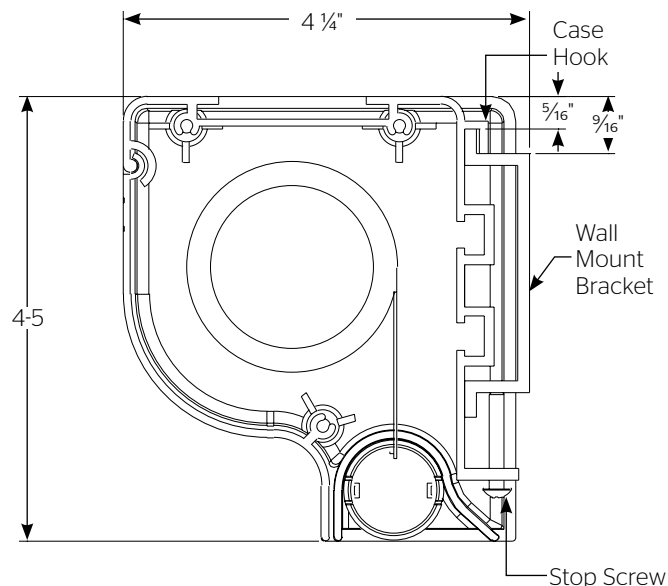

Figure 1
2. Make sure the bracket is level. See Figure 1 for reference dimensions.
4. Mount the screen case on the wall bracket as shown in Figure 1. Be sure the case is fully seated on the bracket. Tighten the stop screws against the wall bracket.